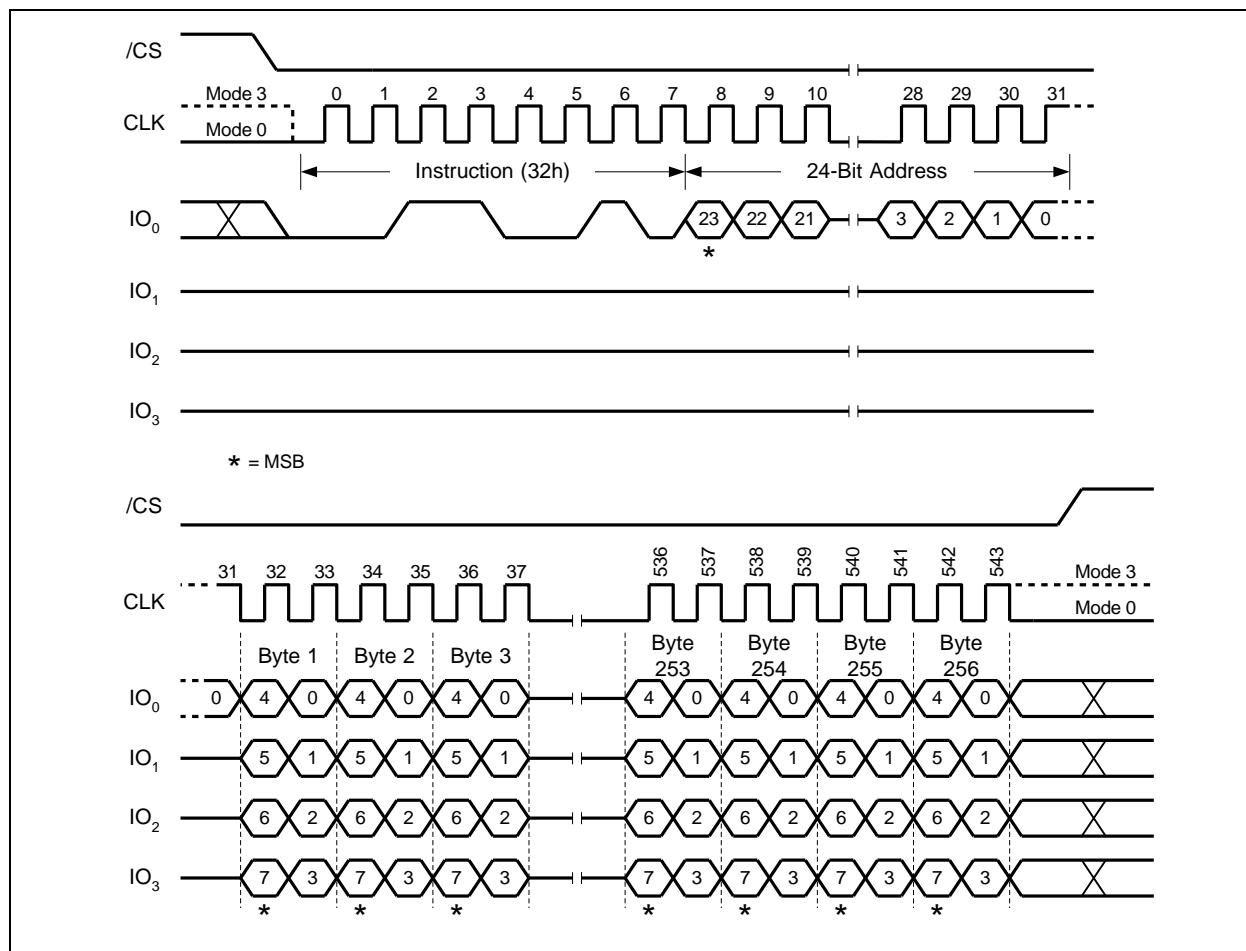

Figure 34. Quad Input Page Program Instruction
To use Quad Page Program the Quad Enable (QE) bit in Status Register-2 must be set to 1. A Write Enable instruction must be executed before the device will accept the Quad Page Program instruction (Status Register-1, WEL=1). The instruction is initiated by driving the /CS pin low then shifting the instruction code “32h” followed by a 24/32-bit address (A23/A31-A0) and at least one data byte, into the IO pins. The /CS pin must be held low for the entire length of the instruction while data is being sent to the device. All other functions of Quad Page Program are identical to standard Page Program. The Quad Page Program instruction sequence is shown in Figure 34.